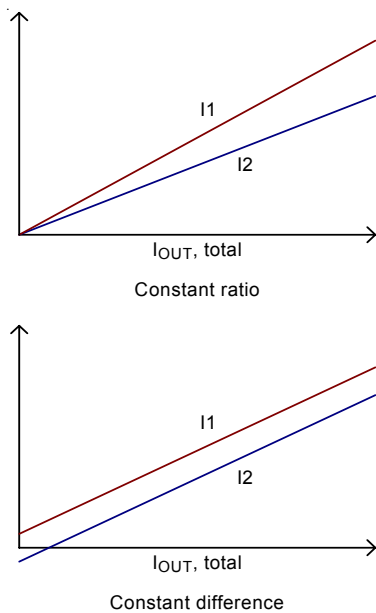

Figure 10. Category of Phase Current Imbalance
If phase current is not balanced due to asymmetric PCB layout of power stage, external resistors can be adjusted to correct current imbalance. Figure 10 shows two types of current imbalance, constant ratio type and constant difference type. If the initial current distribution is constant ratio type, according to Equation (3), reducing RCSN[1] can reduce IL[1] and improve current balance. If the initial current distribution is constant difference type, according to Equation (2), increasing RCSP[1] can reduce IL[1] and improve current balance.